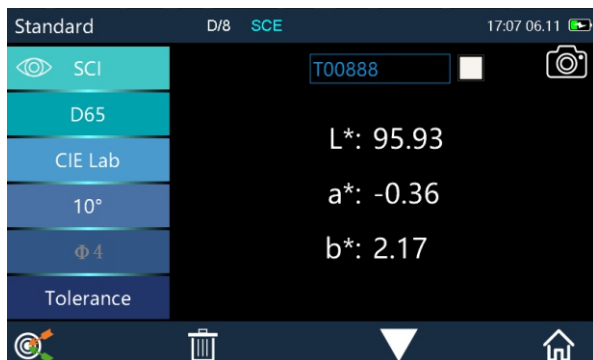
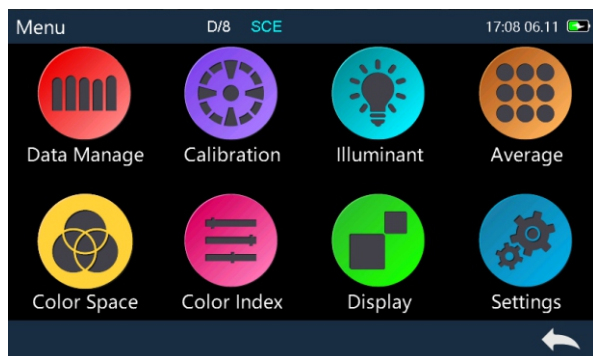

Figure 2 Standard Measurement
Figure 3 Main Menu
1. In Figure 2 standard measurement interface, click , or in other interfaces click,  or , to enter into Figure 3 main menu, as shown in the following figure.
Standard measurement interface (Figure 2) Click "Standard Tolerance" to enter the editing interface, as shown in Figure 17: The setting interface and method are the same as the system tolerance setting, but the difference is that the location of the click is different. When the user has special tolerance requirements for the standard, click the tolerance setting to set the tolerance for the standard.
In the measurement interface (Figure 2) click  to enter the main menu, or click  in other interfaces to enter the main menu. From the main menu, it can enter each sub-menu to achieve all system function settings.